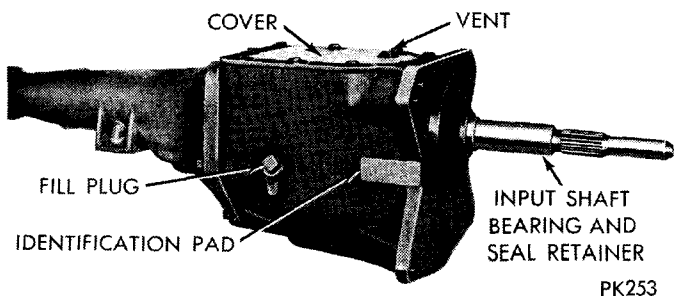
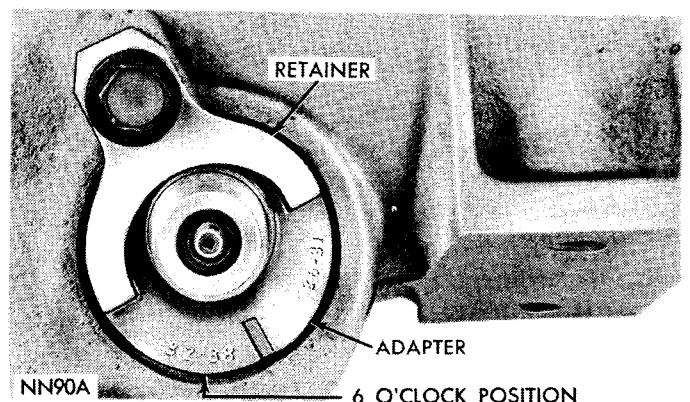
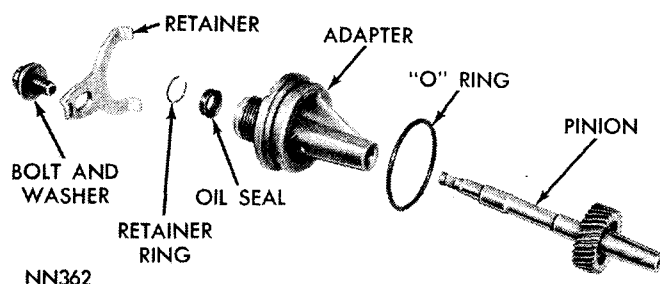

Fig. 2—A-390 Transmission—Right Side
Fig. 6—Speedometer Pinion and Adapter—Installed
Fig. 7—Speedometer Pinion and Adapter—Disassembled
A pad has been provided on the right side of the transmission (Fig. 2) for Transmission and Vehicle identification numbers.
- (2) Remove bolt and retainer securing speedometer pinion adapter in extension housing (Fig. 6).
(3) With cable housing connected, carefully work adapter and pinion out of extension housing.
- (4) If transmission fluid is found in cable housing, replace seal in the adapter (Fig. 7).
- (6) Note number of gear teeth and install speedometer pinion gear into adapter (Fig. 7).
- (7) Rotate the speedometer pinion gear and adapter assembly so that the number on the adapter, corresponding to the number of teeth on the gear is in the 6 o'clock position as the assembly is installed (Fig. 6).
(8) Install retainer and bolt, with retainer tangs in adapter positioning slots. Tap adapter firmly into extension housing and tighten retainer bolt to 100 inch-pounds.
- (9) Fill transmission to level of fill plug (Fig. 2).